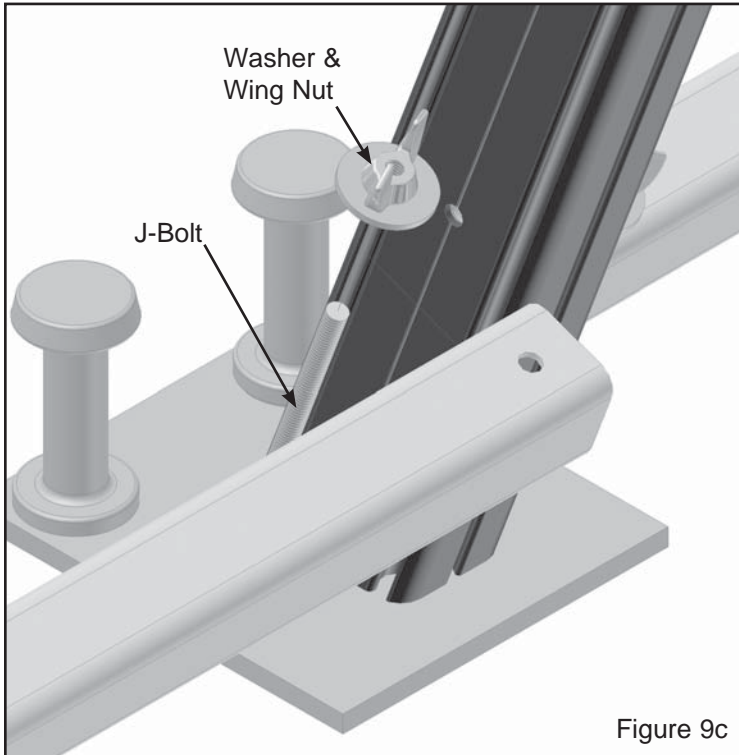

Figure 9c
- Hook J-Bolt through hole in vertical plate on base plate and lower ground bar onto J-Bolt. Secure with washer and wing nut. Wing Nuts are used to tension and position the fabric. **See figures 9c through 9f.**